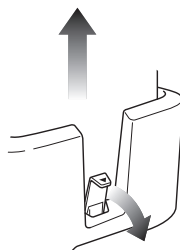

Fig. 5
- 2 To remove the motor base from inside the dough station, pull the locking tab away from the back of the motor base while you lift the motor base out of the dough station. (Fig. 5)